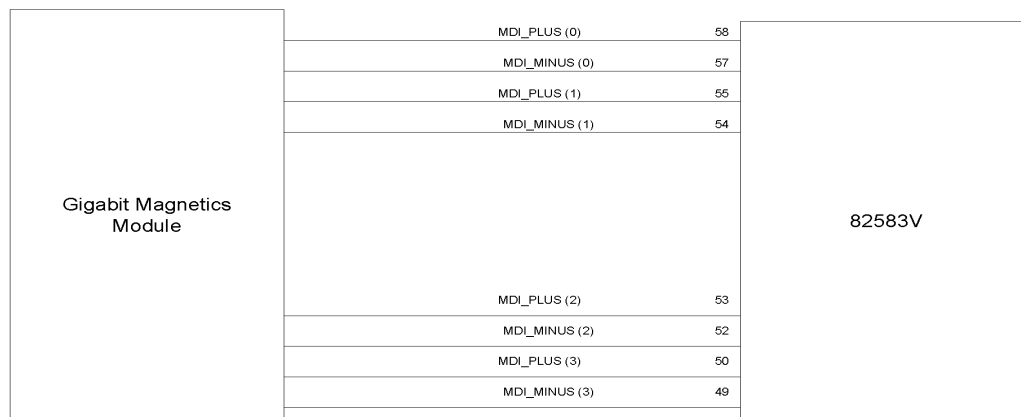
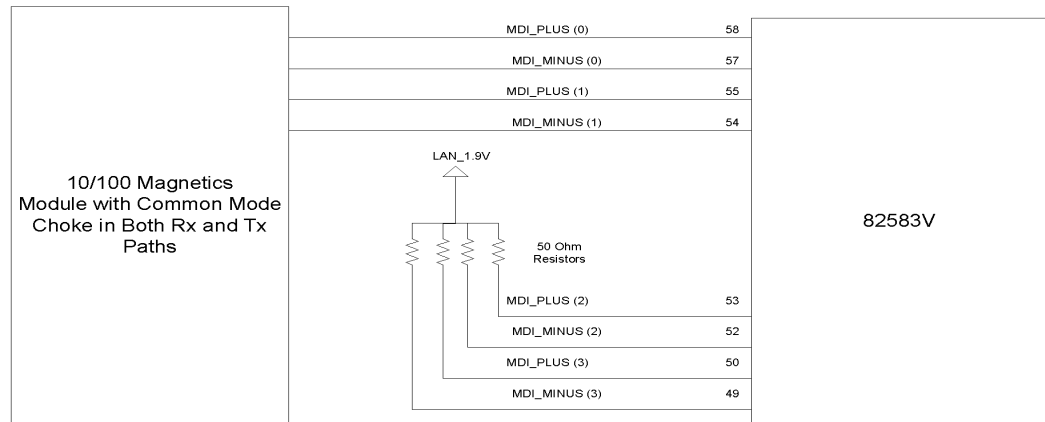

Figure 53. 82583V Gigabit Magnetics Module Connections
Figure 54. 82583V 10/100 Mb/s Magnetics Module Connections (With CMC)
2. Connect MDI pair 0 (pins 57 and 58) and MDI pair 1 (pins 54 and 55) to your magnetics. MDI pair 2 (pins 52 and 53) and MDI pair 3 (pins 49 and 50) can each be pulled up to 1.9 V dc through a 50 Ω resistor or connected to the magnetics as a gigabit device if it is desired at a later time to enable gigabit by altering bit 14 of the LED 1 Configuration Defaults/PHY Configuration; word 0x1C (Giga Disable). See Figure 53 and Figure 54 for details.